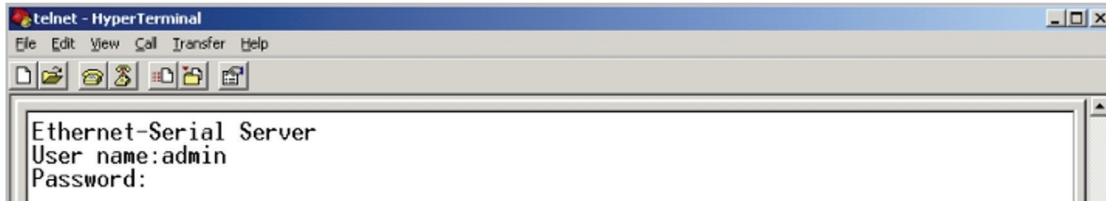

Figure 3.4 Login to the system
2. Telnet to AM-SEK using command **Telnet IP address**. (For example: Input **Telnet 10.0.50.100** in Ms-DOS command prompt window). Once connected to the AM-SEK, the system prompts for a password. The default password is the word **default** (see Figure 3.4 below).